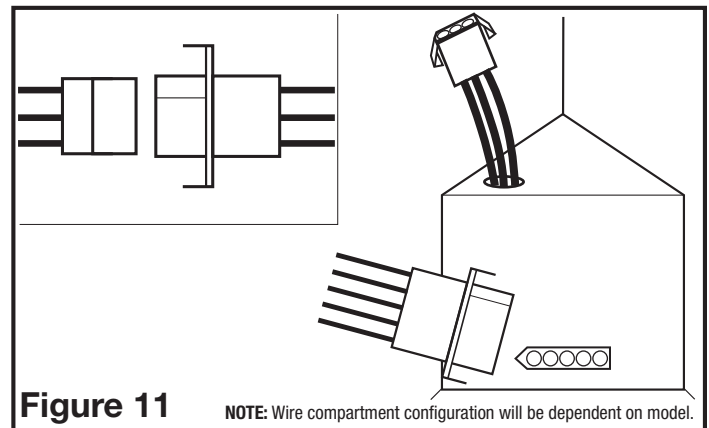

Figure 11
3. Plug the fan's 5 pin quick connect motor cord into the receptacle on the side of the wiring compartment cover and the light's 3 pin quick connect into the receptacle on the top of the wiring compartment cover. These cords will only fit one way into the receptacles (**Figure 11**).